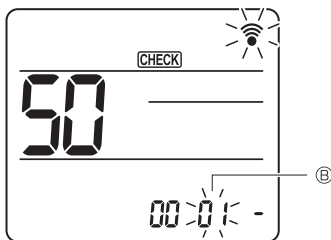

Fig. 11-3
Press the **↓** button to set Mode number ②. (Fig. 11-3)